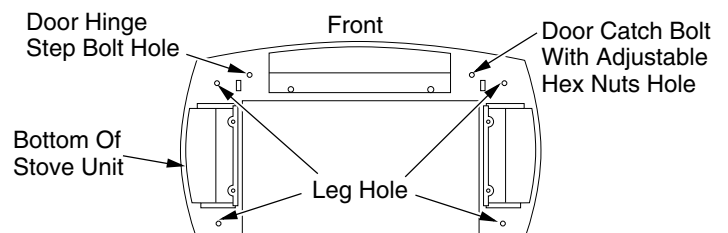
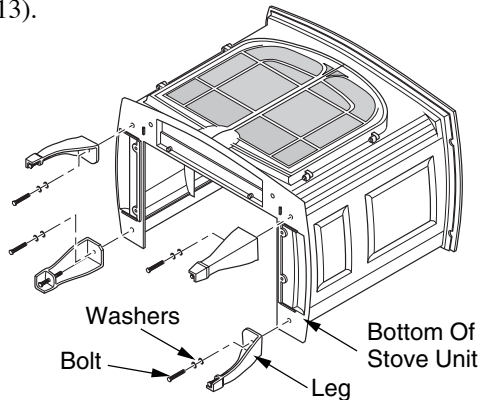

Figure 9 - Locating Threaded Holes for Legs and Door Attachment
Figure 10 - Attaching Stove Legs (Oxford™ Model Shown)
9. Fasten each leg to stove with four (4) M8 x 1.25 - 20mm bolts. Use a flat washer and lock washer with each bolt. Tighten bolts into threaded holes on stove body (see Figure 9 and Figure 10 on page 6). Use an adjustable wrench or a 12mm socket.
- Attach stove door by inserting step bolt through door hinge pivot hole and into threaded hole in stove body (see Figure 11 and Figure 9 on page 5). Use an adjustable wrench or a 12mm socket to fasten step bolt. Tighten step bolt until snug. Make sure door moves freely.
- Install door catch bolt (M8 x 1.25-55mm with two M8 hex nuts) into threaded hole on stove body (see Figure 9, page 5). Use an adjustable wrench or a 12mm socket. The catch bolt has two hex nuts attached to it (see Figure 12). The top nut is a bolt stop and the bottom nut is for door leveling adjustment.